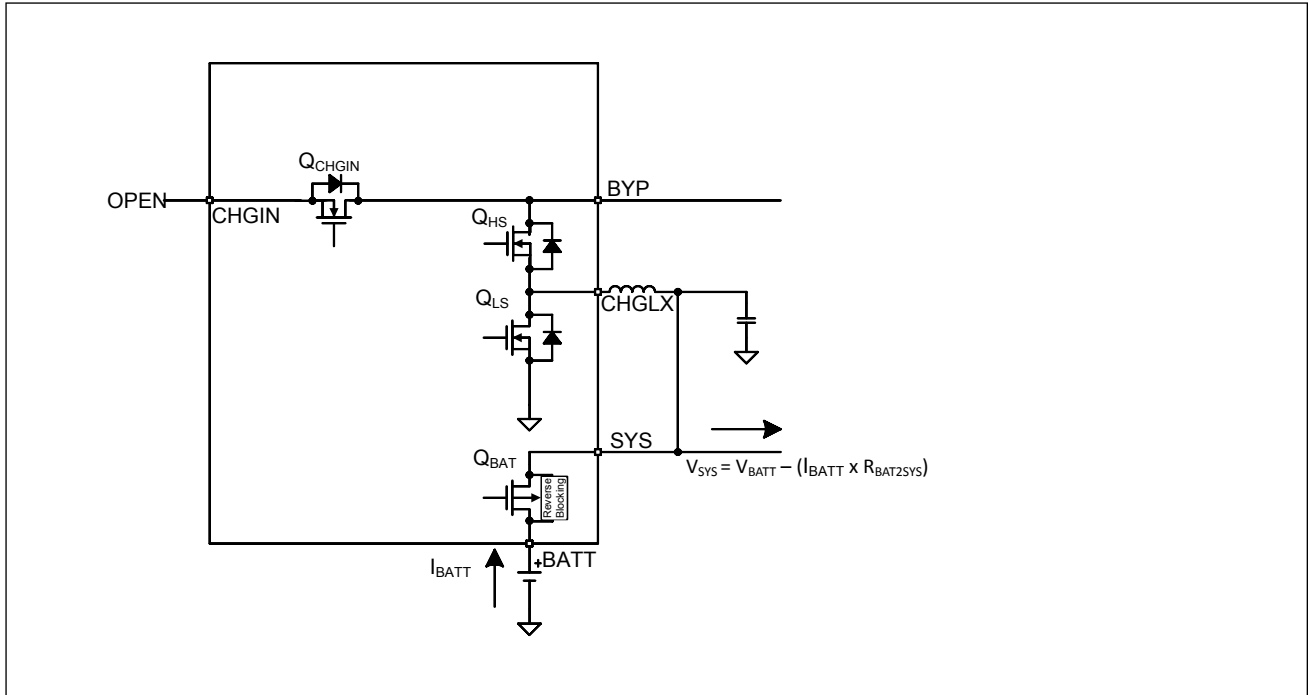

Figure 5. Battery Only
2. BATTERY-ONLY, MODE = 0x00. Adapter input is invalid, outside the input voltage operating range ( $Q_{CHGIN}$  = off). Battery is connected to power the SYS load ( $Q_{BAT}$  = on), and boost is ready to power OTG (boost = standby), see Figure 5.